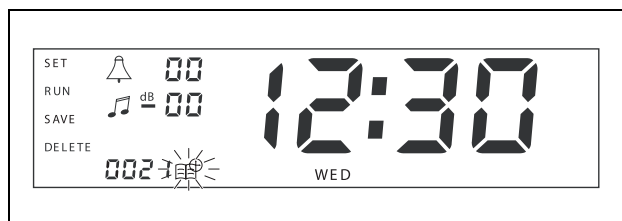

figure 7.3: Event symbol with new number displayed
- Select the minutes and confirm. The event symbol will start to flash, and the next available event number will be displayed (see figure 7.3).